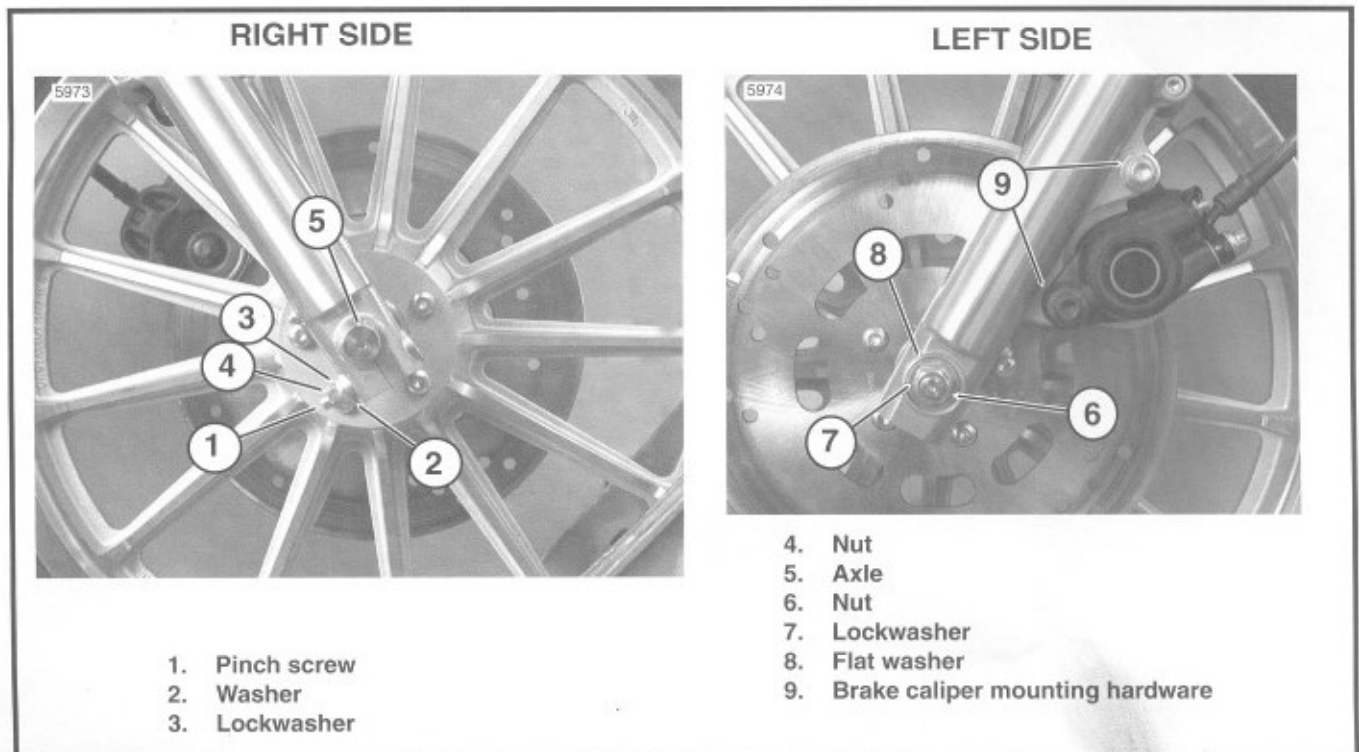

Figure 2-2. Front Wheel Mounting
See Figure 2-2. Check tire inflation pressure at least once each week. At the same time, inspect tire tread for punctures, cuts, breaks and other damage. Repeat the inspection before road trips.
## REMOVAL (Figure 2-2)
4. See Figure 2-2. Tighten pinch screw nut (4) to 21-27 ft-lbs (28-37 Nm) torque.
5. Install brake caliper. Tighten brake caliper mounting screws (9) to 25-30 ft-lbs (34-41 Nm) torque. For more detailed information, see FRONT BRAKE CALIPER, INSTALLATION, in this section.